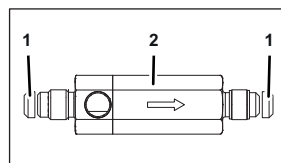

Figure 110
3. Check the seals (Figure 110/1) for damage.
Replace any damaged seals (Figure 110/1).
4. Position the new non-return valve (Figure 110/2) within the unit.